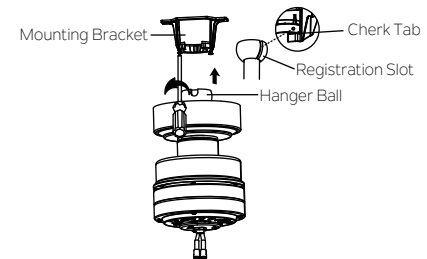

Fig. 9
**Step 5.** Now lift the motor body into position and place the hanger ball into the mounting bracket. Rotate until the "Check Tab" has dropped into the "Registration Slot" and seats firmly. (Fig. 9) The entire motor body should not rotate if this is done correctly.